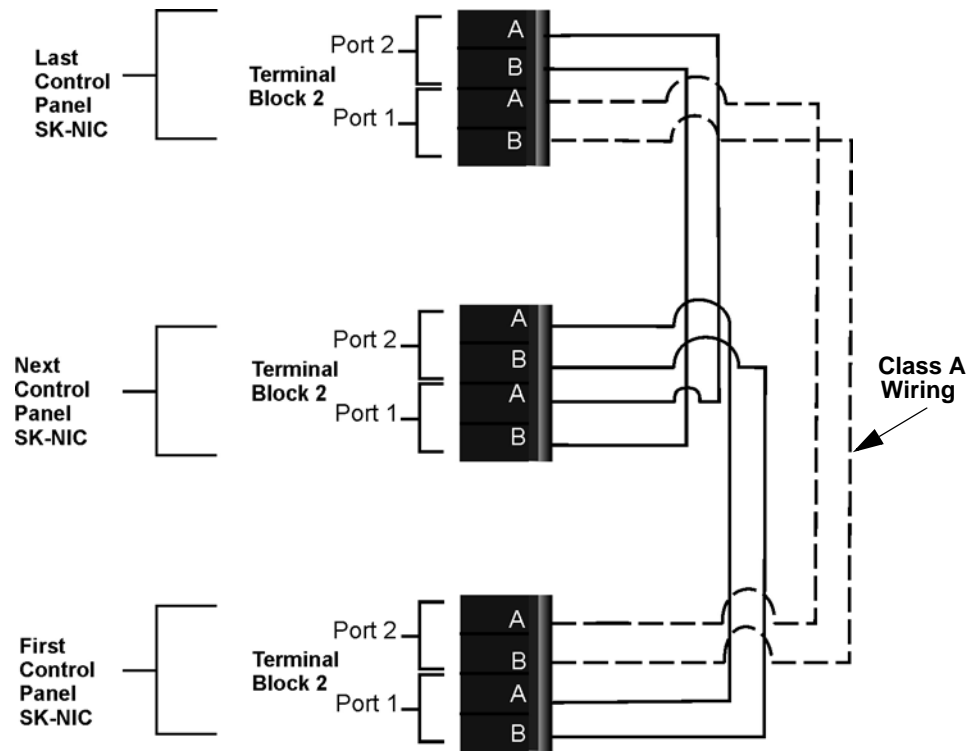
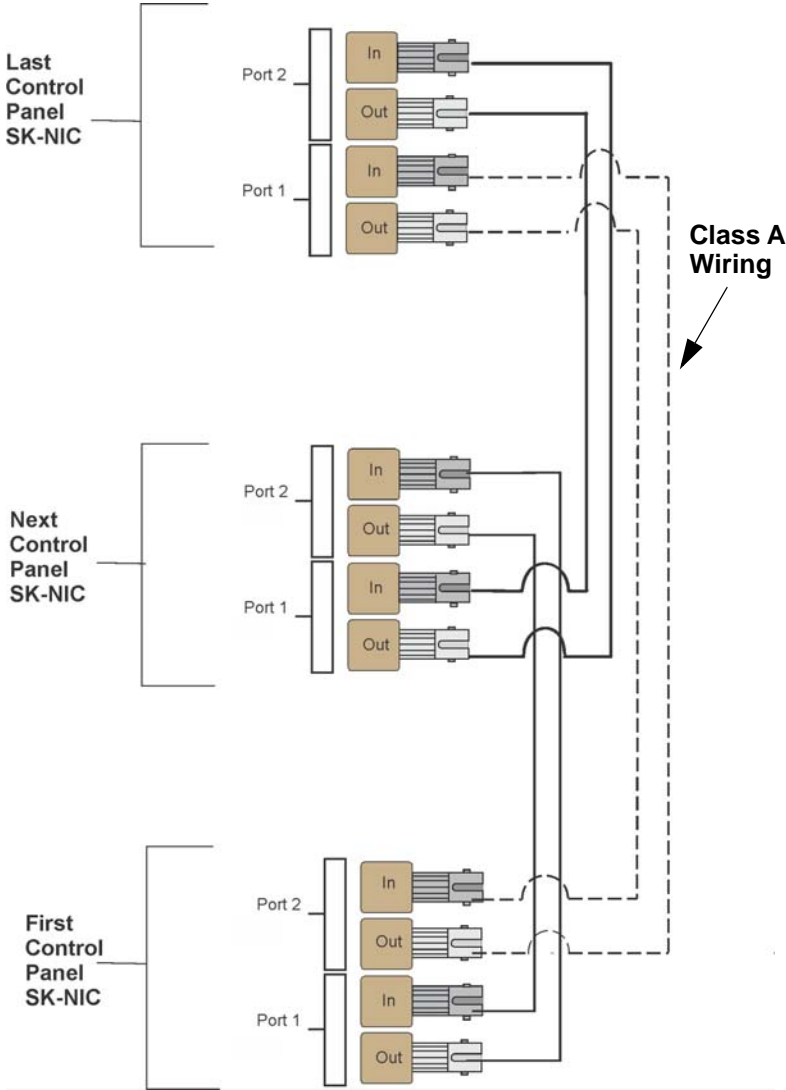
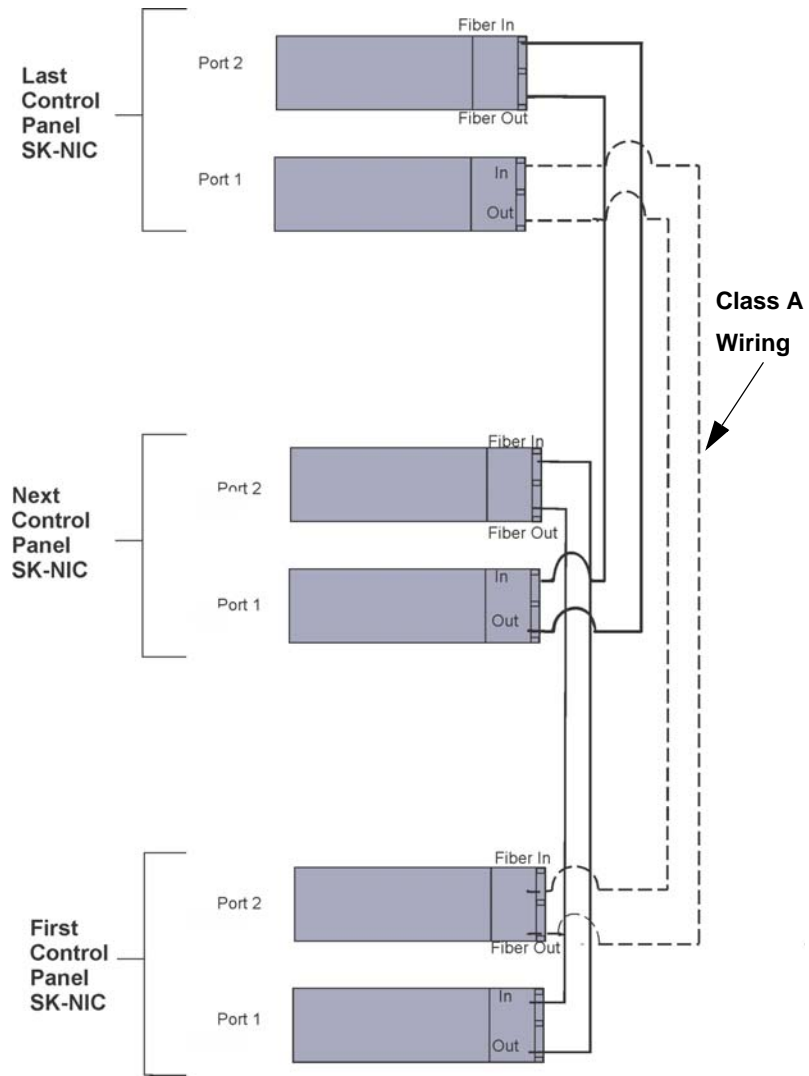
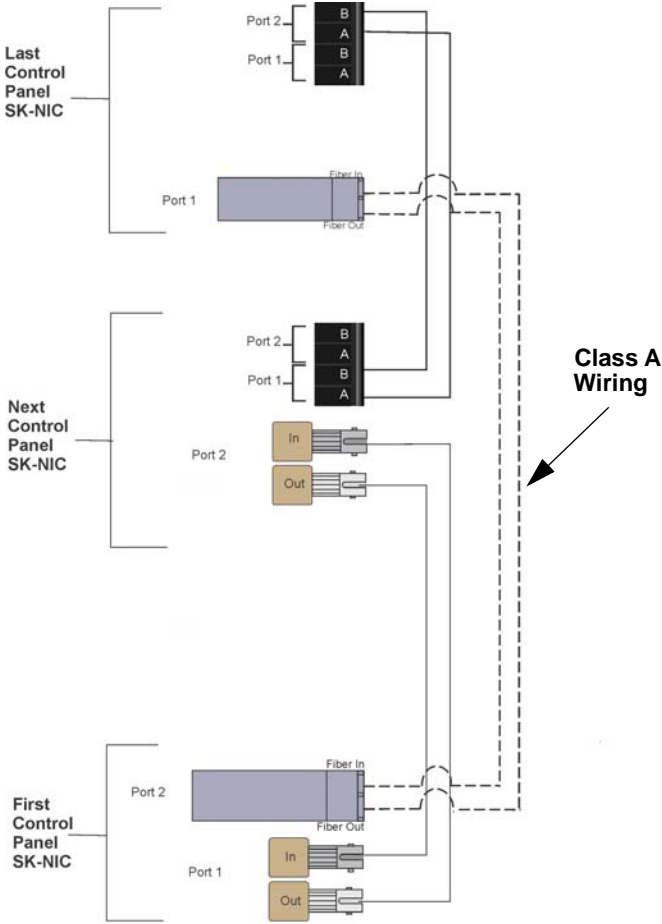

Figure 5.7 Twisted Pair Wiring Configuration
Figure 5.8 Fiber Optic Wiring Example
Figure 5.9 Fiber Optic Wiring Single-Mode Example
Figure 5.10 Twisted Pair and Fiber Optic Combination Wiring Example
- Based on the type of data medium chosen, run the twisted pair wiring/fiber optic cable to the next SK-NIC using a class B or class A wiring method. A combination of both medium types can be used. See Figure 5.7, Figure 5.8, Figure 5.9, and Figure 5.10 for SK-NIC wiring examples.
Unshielded twisted pair wiring between multiple panels is shown in Figure 5.7. Class A wiring is shown with a dotted line.
Fiber optic cable between multiple panels is shown in Figure 5.8. Class A is shown with a dotted line.
A mixture of fiber optic cable and twisted pair wiring between multiple panels is shown in Figure 5.10. Class A cabling is shown with dotted line.